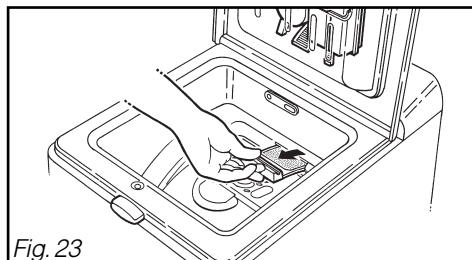

Fig. 23
- remove the filter from its housing by pulling it towards you (Fig. 23).